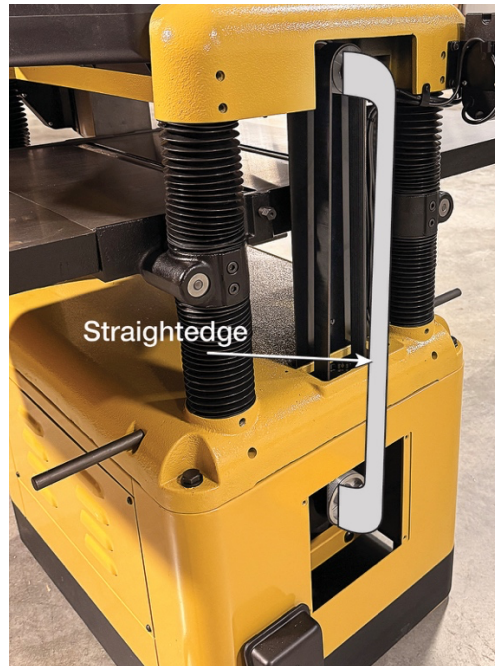

Figure 9-2: Pulley Alignment
1. Remove the belt guard covers, then place a straightedge against the faces of both pulleys (Figure 9-2).